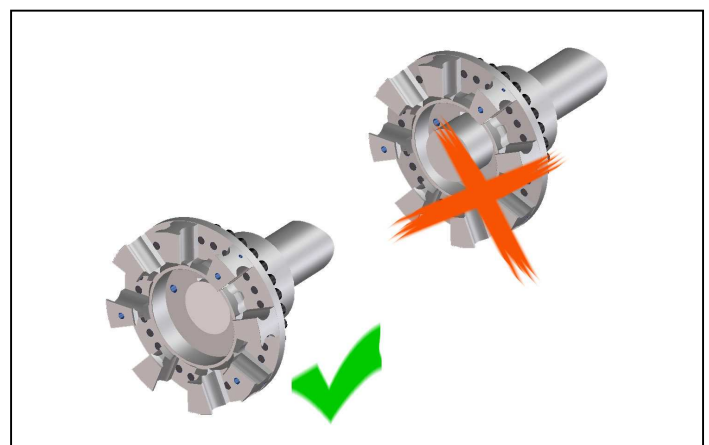

Fig. 6
- Mount the hubs in such a manner that the shaft end is flush with the inner bore openings (Fig. 6). Observe deviant agreements, which may exist.